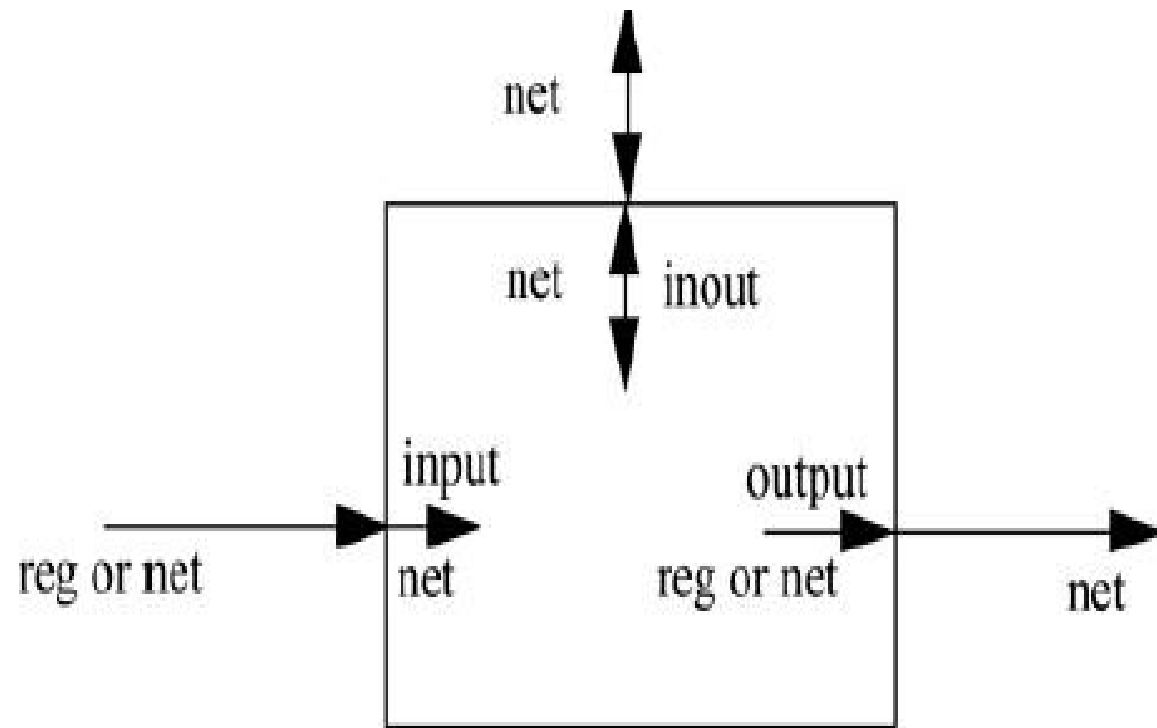

Figure 2-5. Port Connection Rules
- The Verilog simulator complains if any port connection rules are violated. These rules are summarized in Figure2.5